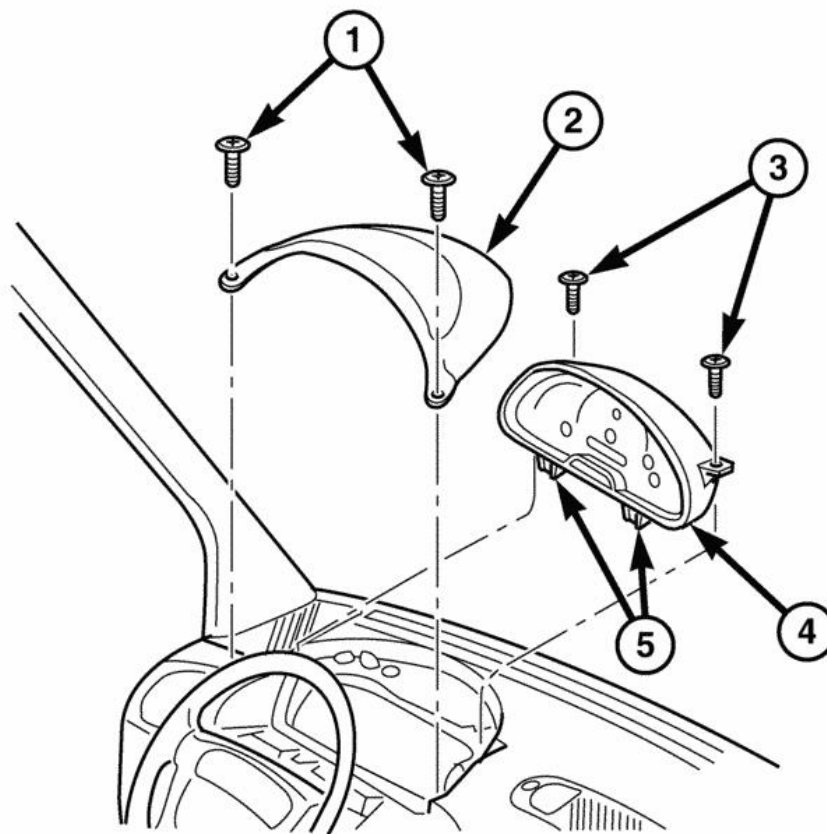

Figure 2 – Instrument Cluster
20. Remove the two screws (1) then using a trim stick C-4755 or equivalent, remove the instrument cluster top cover (2) (Figure 2).
21. Remove the two screws (3) that secure the instrument cluster (4) mounting ears to the instrument panel base structure (Figure 2).
22. Lift the instrument cluster upward far enough to disengage the two molded plastic pivot loops (5) integral to the base of the cluster hood from the two pairs of molded plastic pivot hooks that are integral to the top of the instrument panel base structure (Figure 2).
27. Align the two molded plastic pivot loops (5) integral to the base of the cluster hood between the two pairs of molded plastic pivot hooks that are integral to the top of instrument panel base structure, then push downward on the top of the cluster until the loops snap into engagement with the hooks (Figure 2).
28. Roll the top of the instrument cluster (4) forward to position the instrument cluster into the instrument panel (Figure 2).
29. Install and tighten the two screws (3) that secure the instrument cluster mounting ears to the instrument panel base structure (Figure 2). Tighten the screws to 2 N·m (20 in. lbs.).
30. Install the instrument cluster cover (2) then install the two screws (1) and tighten securely (Figure 2).